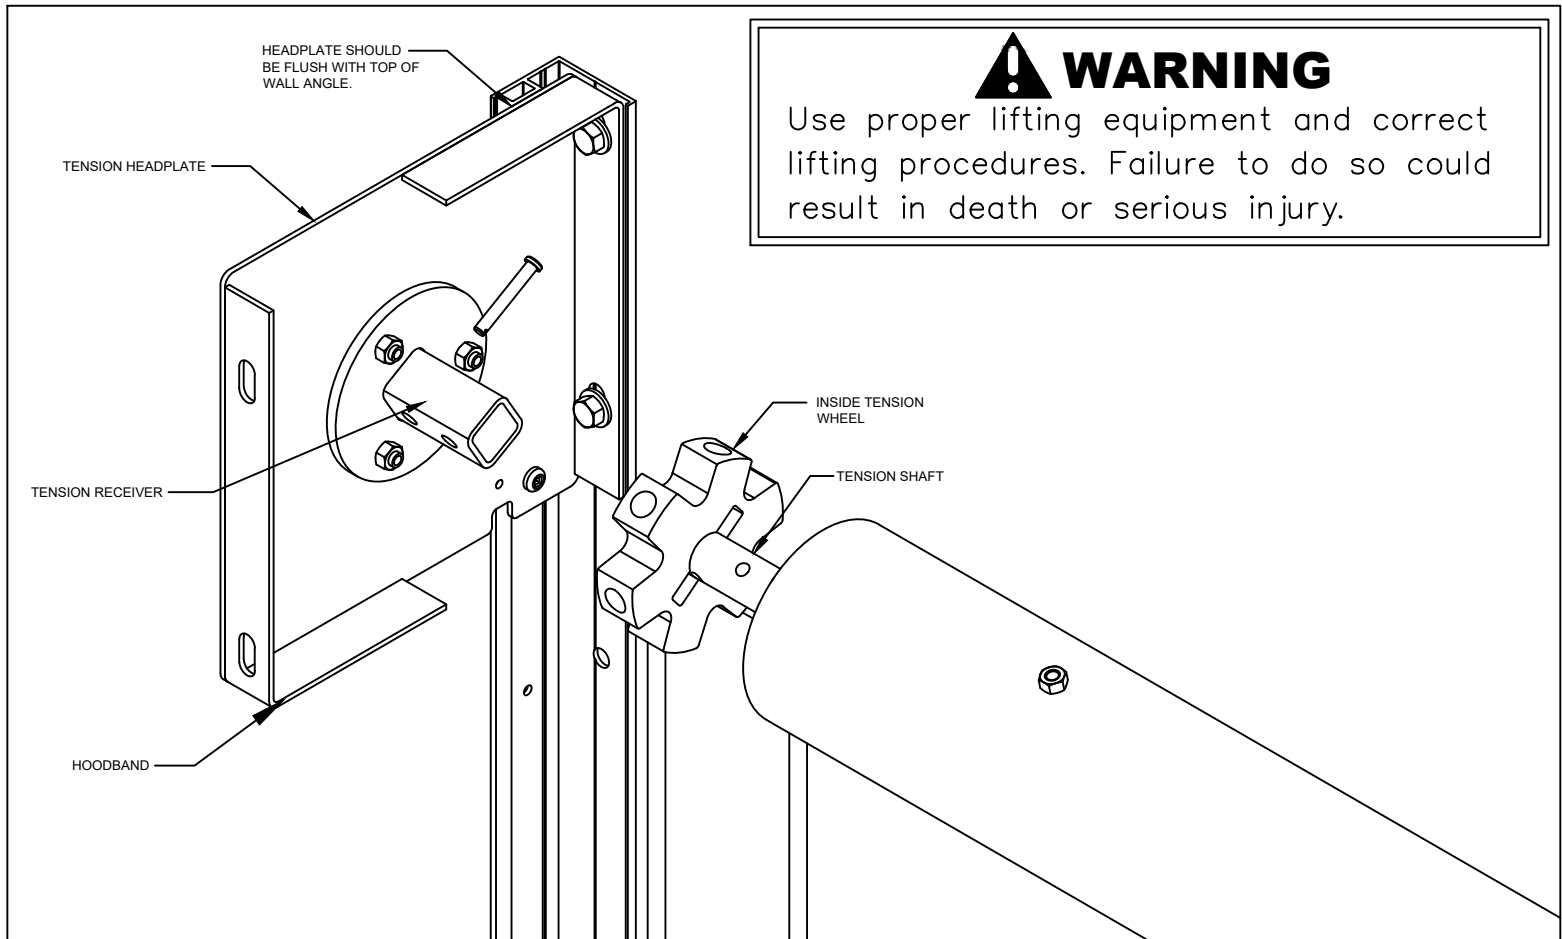

FIGURE 10
- ✓ Top two holes where wall guide fastens to jamb above header; fasteners to be installed through headplate slots, through wall guide into jamb as shown in figure 10 on page 9.
- a. Carefully secure barrel to hoisting equipment and raise into position at top of wall angles. Attach headplate brackets to wall angles as shown in Figure 10.